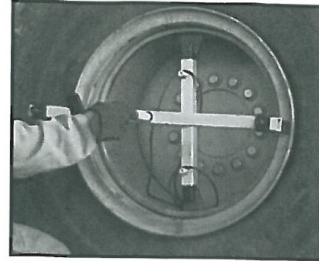

FIGURE 4
- Depending on amount of travel left on the threaded center rod choose a round spacer or spacers and slide onto the threaded center rod as seen in **Figure 4**.